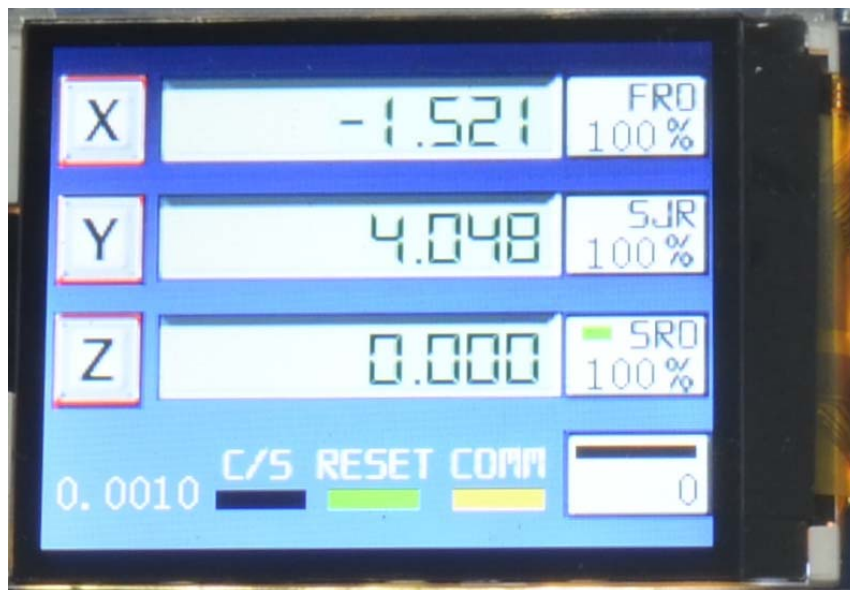

figure 3
- push the key "XYZ/ABC" to make the screen in XYZ mod. see as figure 3
see as figure 3